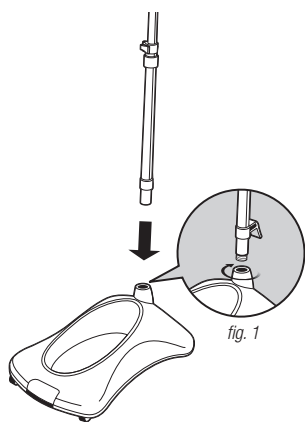

fig. 1
- 1** Set the base on the floor and insert the telescoping pole, align the groove of the pole with the arrow on the base. Turn the pole connector clockwise to secure. **(fig. 1)**
- 2** Set the base on the floor and insert the telescoping pole, align the groove of the pole with the arrow on the base. Turn the pole connector clockwise to secure. (fig. 1)